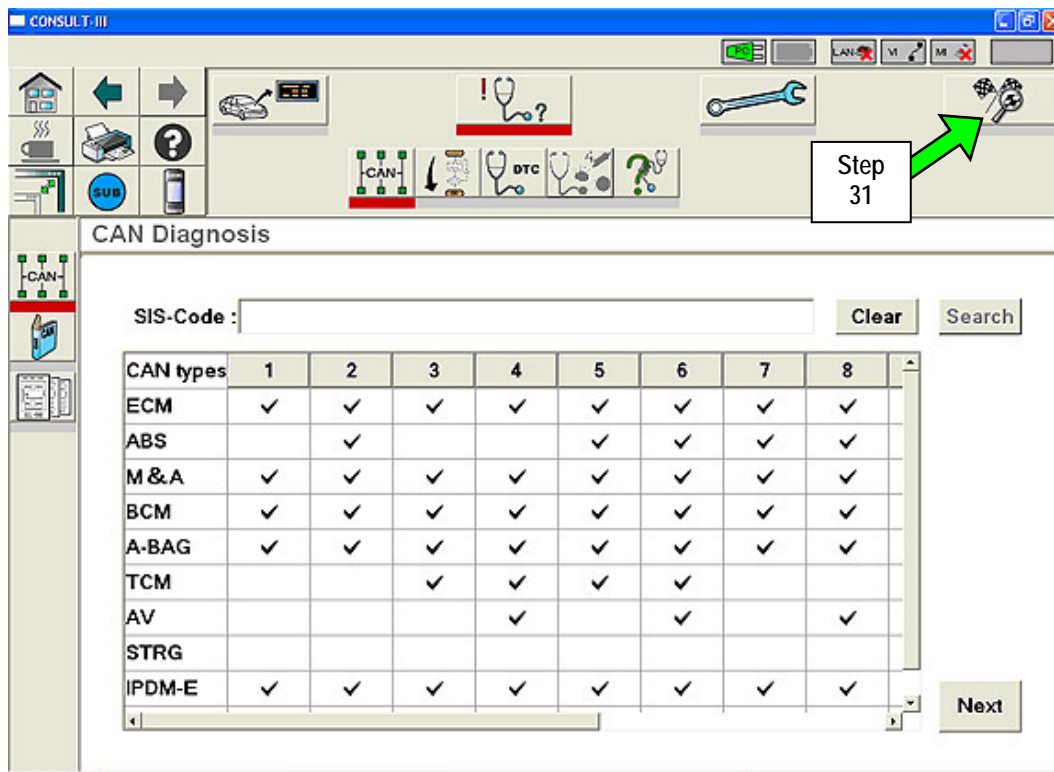

Figure 13
31. When the screen in Figure 13 appears, click on the "Final Check" icon.